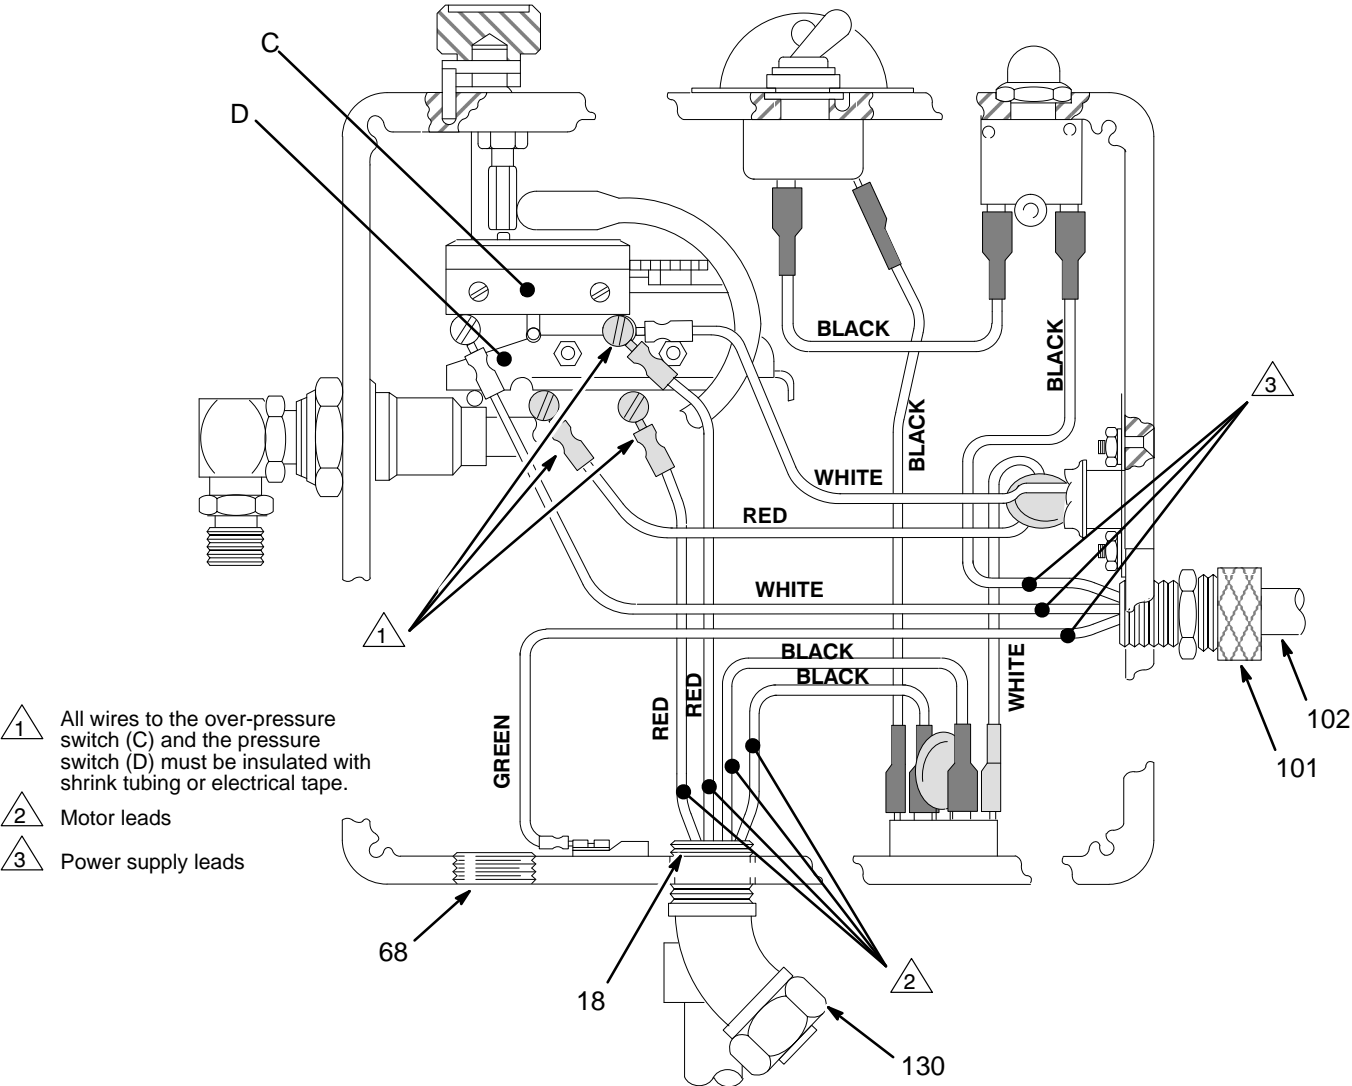

Fig. 20
All wires connected to the over-pressure switch (C) and the pressure switch (D) must be insulated at the terminals to reduce the risk of electric shock if someone touches these parts when the power is on. When installing the new pressure control, be sure these terminals are covered with shrink tubing or electrical tape. See Fig. 20.
1. Disconnect the spray hose. Hold the nut (B) steady with a wrench and unscrew the filter (15).
2. Hold the elbow (105d) steady with a wrench and disconnect the hose (30). Disconnect the drain hose (80).
3. Remove the pressure control cover (21).
4. Disconnect the three power supply cord leads. See Fig. 20.
5. Disconnect the four motor leads. See Fig. 20.